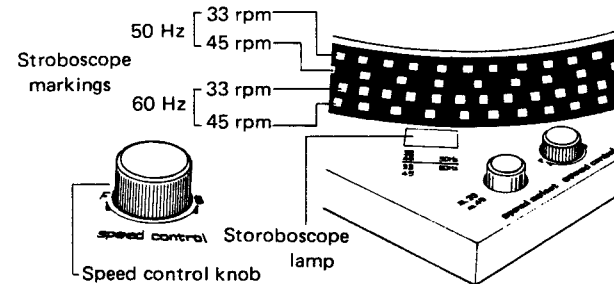

Figure 26.
- (1) Press the speed selector button 00 and perform fine adjustment of the turntable platter speed while watching the stroboscope 00. (Figure 26)
- (2) Rotation is speeded up by turning the speed control knob 00 in the "F" direction and slowed down when turned toward "S". Correct rotation is attained when the relevant stroboscope markings appear to be stationary.
When replacing a cartridge, it will be necessary to adjust the overhang. As has been indicated in Fig. 26, the distance from the stylus tip to the point of connection to the tone arm should be exactly 50mm. When mounting the new cartridge, this distance is adjusted by means of the screw which holds the cartridge in place in the head shell.